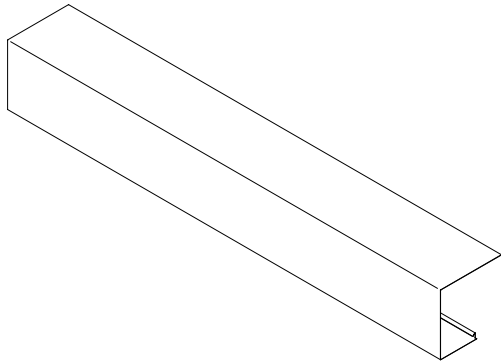
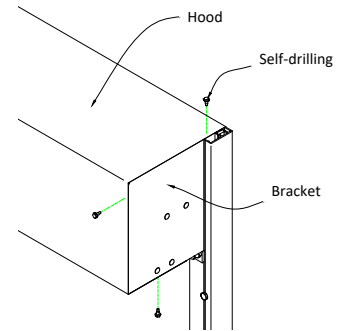

Figure 13
Figure 14
**Step 9:** Install hood; refer to Figure 13. Place hood between brackets with end over lapping bracket returns and clip angles. Using #10 x 1/2" self-drilling screws attach hood to bracket returns and clip angles as necessary; refer to Figure 14.